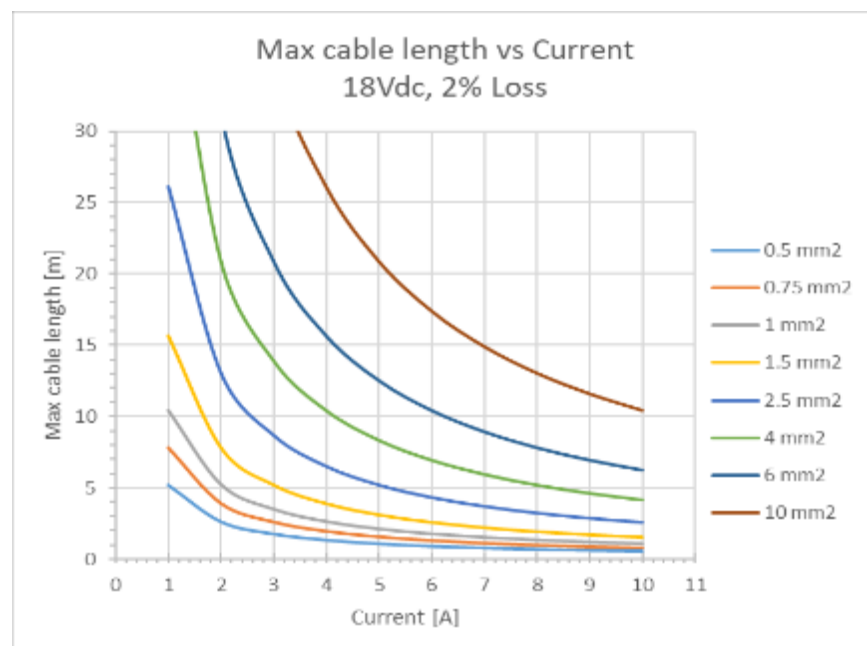

Figure 5: Maximal cable (wire) length per type of cable. The length is measured from pump to solar panel. Do not use cables of 0.5 or 0.75 mm²
- The cable size can be found in Figure 5. This graph is created for pump models ZL50-20N and ZL38-13N with solar panels and based on a (low) loss of 2%. This may result in high cost for cables. If you allow a higher loss, for instance 4%, the cable can be 50% smaller.